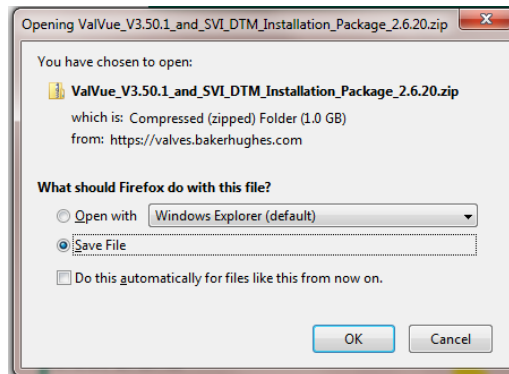

Figure 12 Opening Dialog
2. Use the arrows to move through the selections. Select **Download** below *ValVue V3.30 Installer Download* and Figure 12 appears.